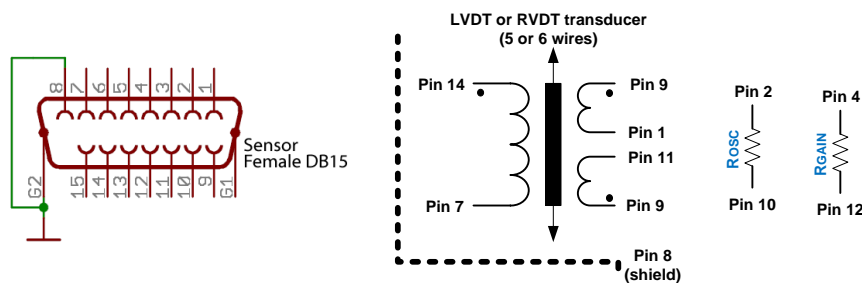

Figure 1 - Connection Diagram – SD20-LVDT model
A Din DB15 Male connector should be used to interface the LVDT sensor to the SD20 device accordingly to pinout diagram shown in **Figure 1**.
1. Connect the LVDT wires accordingly to **Figure 1** and install a 500k trimmer potentiometer between pins 2-10 (ROSC) and a 50k trimmer potentiometer between pins 4-12 (RGAIN).